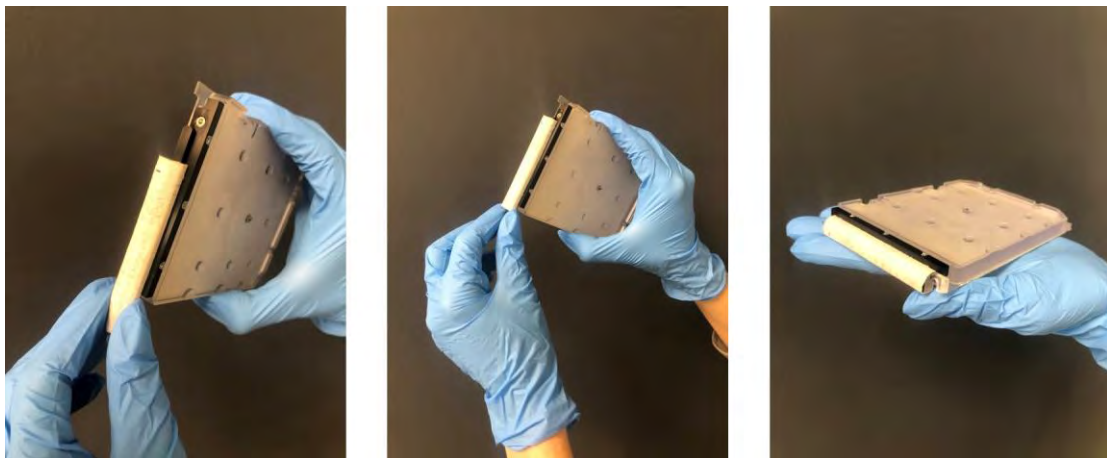

Figure 5.6: Installing the OSC Slider onto the OSC.
3. Slide the OSC Slider onto the cartridge (Figure 5.6). The OSC Slider will come preloaded with lint free wipes. Install the OSC slider onto the OSC as shown in Figure 5.6. The OSC slider will automatically stop moving once it reaches the end of the cartridge opposite of where the user started the installation.